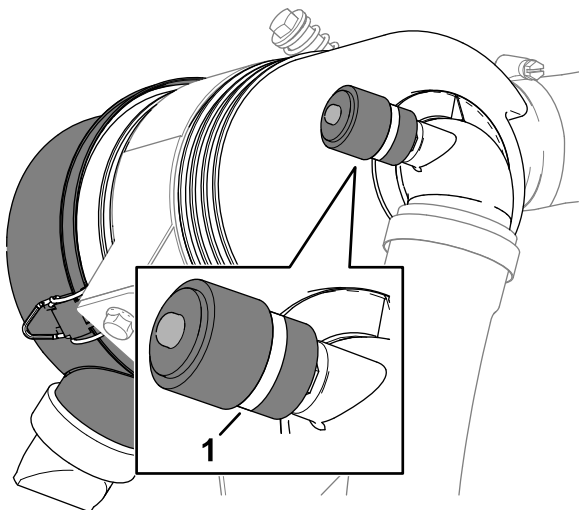

Figure 108
3. Check the service indicator at the end of the air filter housing (Figure 108).